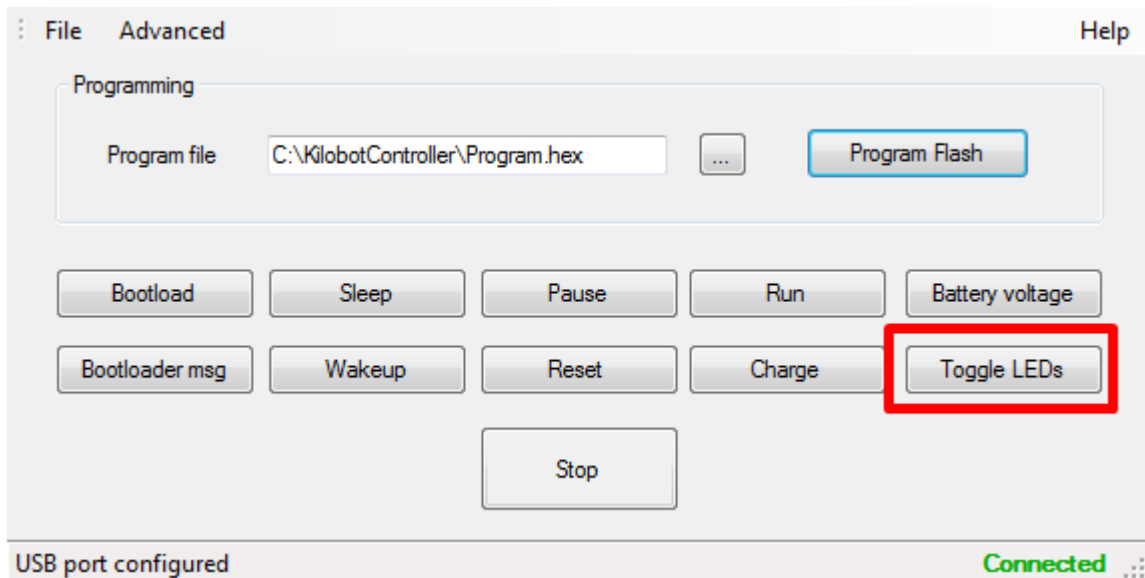

Figure 4.2: OHC software buttons
3. Run the *KilobotController.exe* program, and click the “Toggle LEDs” button to test that a connection is made (Fig 4.2). This should blink the red LEDs on the controller.